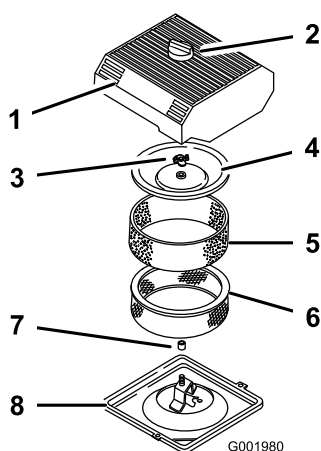

Figure 45
3. Clean around the air cleaner to prevent dirt from getting into the engine and causing damage (Figure 45).
4. Loosen the knob on the air cleaner cover and remove the cover (Figure 45).
5. Carefully slide the foam element off the paper element (Figure 45).
6. Unscrew the cover nut and remove the cover and paper element (Figure 45).
1. Carefully slide the foam element onto the paper air cleaner element (Figure 45).
3. Install the cover nut finger-tight against the cover (Figure 45).
4. Install the air cleaner cover and knob (Figure 45).